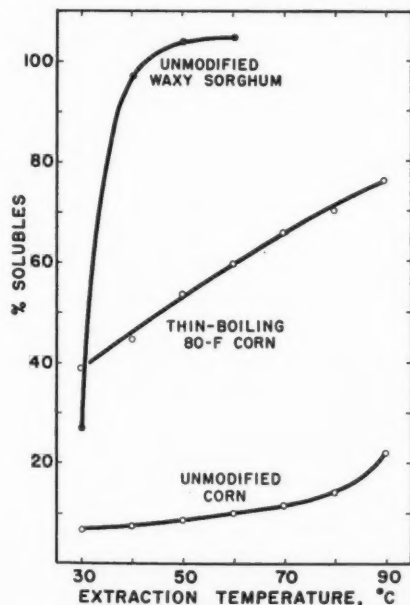

Fig. 14. Solubility of various starch films (dried at 80°C.).
We have devised a simple test for evaluating both the extent and the strength of associative bonding within a starch film (1). The starch paste or dextrin solution is cast as a film on stainless-steel plates, then dried under carefully controlled conditions of humidity and temperature. This gives a free film which is analogous to the sizing on a sheet of paper. This film is extracted with water at various temperatures, and the amount of starch substance which dissolves is determined. Figure 14 illustrates the solubility behavior of films from three very different starches. A film of unmodified waxy sorghum